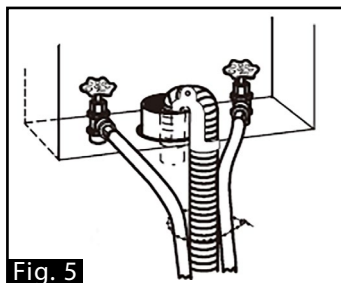

Fig. 5
1. STANDPIPE DRAIN SYSTEM - WALL OR FLOOR (FIG. 5 & 6):